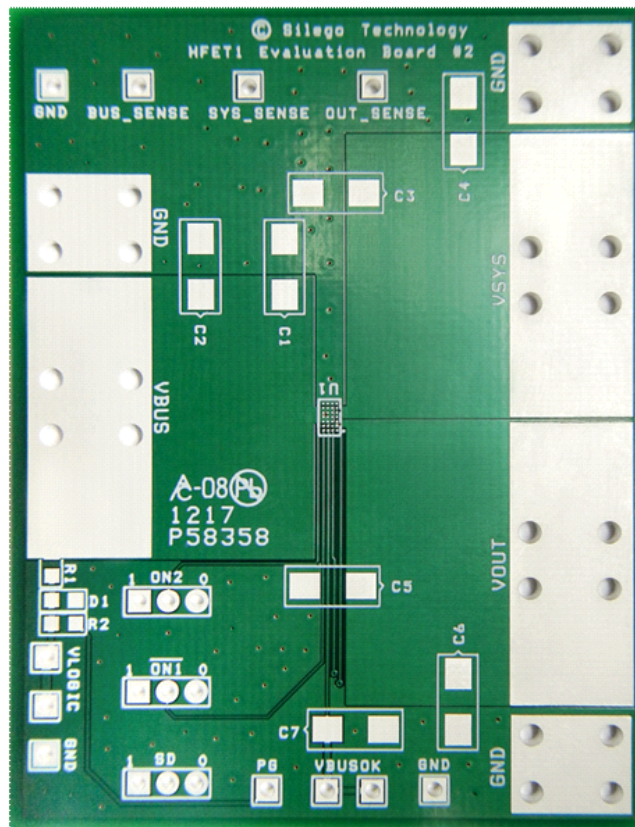

Figure 1. SLG59H1302C Evaluation Board
1. Since the BUS, SYS and OUT pins dissipate most of the heat generated during high-load current operation, it is highly recommended to make power traces as short, direct, and wide as possible. A good practice is to make power traces with absolute minimum widths of 15 mils (0.381 mm) per Ampere. A representative layout, shown in Figure 1, illustrates proper techniques for heat to transfer as efficiently as possible out of the device;
A HFET1 Evaluation Board for SLG59H1302C is designed according to the statements above and is illustrated on Figure 1. Please note that evaluation board has BUS_Sense, SYS_Sense and OUT_Sense pads. They cannot carry high currents and dedicated only for RDS_{ON} evaluation. evaluation.